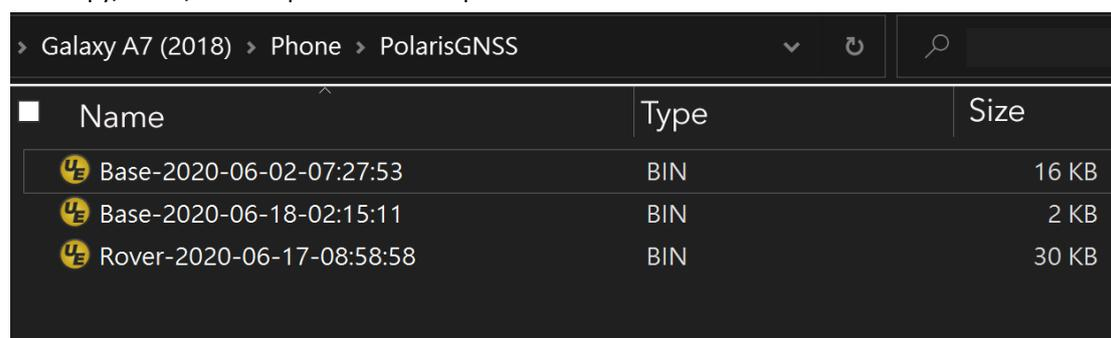

Figure 7-8
1. Connect the phone with PC, then select the folder “PolarisGNSS” in the popped-out File Explorer. See Figure 7-8